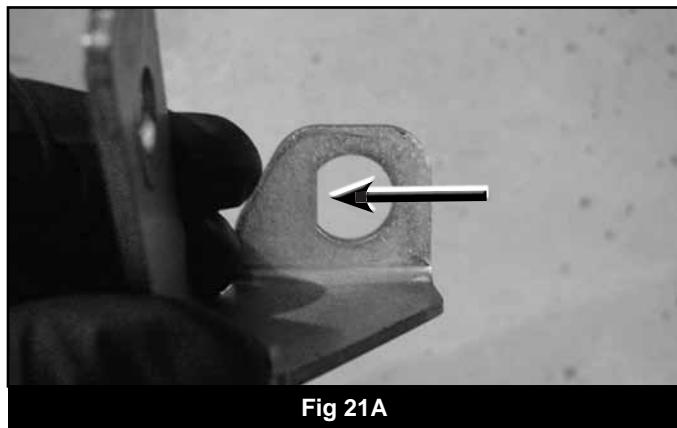
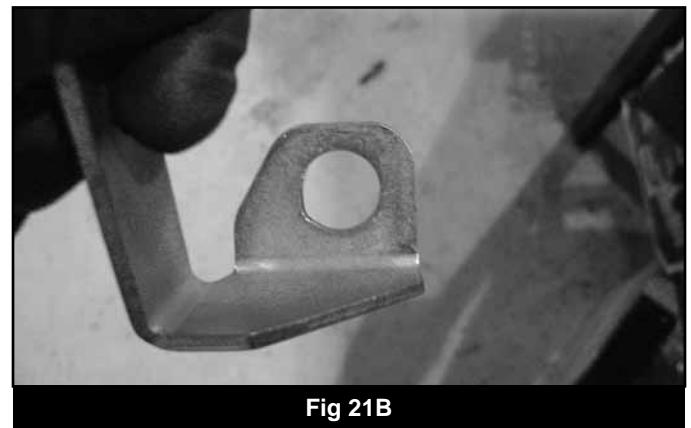
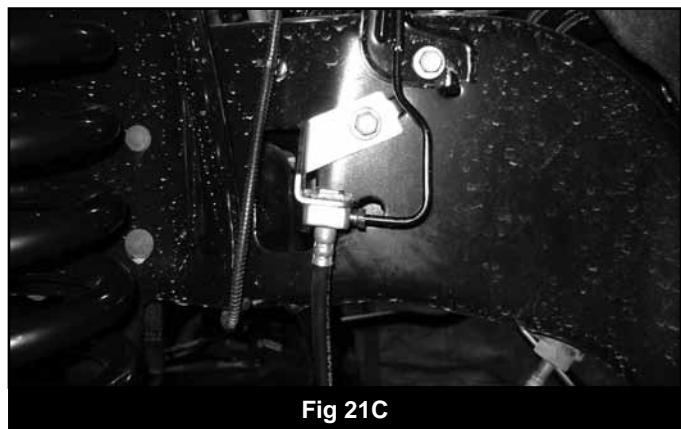

Fig 21A
Fig 21B
Fig 21C
52. 4" Lift Only: Remove the factory front brake line brackets from the frame. The brackets have a squared edge in the brake line mounting hole. (Fig 21A) Using a file or rotary grinder, remove the square edge to form a complete round hole. (Fig 21B) Reattach the brackets to the frame tighten securely with the factory hardware. Install the brake line junction in the bracket from the bottom and fasten with the factory retaining clip. (Fig 21C)